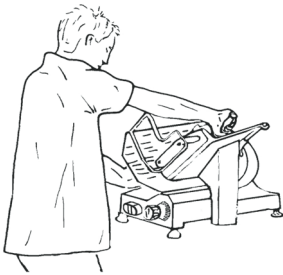
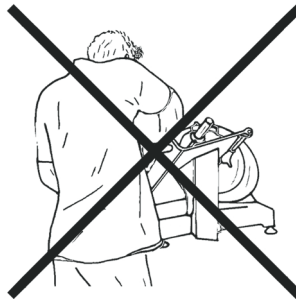

Fig. 1a. Right position
Fig. 1b. Bad position
- to avoid accidents, the operator has to face the machine and adopt a correct position: put the ring hand on the meat pusher, and then the left one beside the deflector (**do not touch the blade**); the body must be perpendicular to the working surface (see Fig. 1a). **WARNING: Pay maximum attention: no part of your body should contact the blade** (see Fig. 1b);